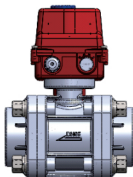

Figure 1
- 2.During installation, the flow direction should be same as the symbol “” on valve body, otherwise, it will cause leakage; DN65 and bigger ball valves, when installed horizontally, the actuator must be directed upward (as the Figure 1 shows); When installed vertically, the actuator can be oriented in any direction (as the Figure 2 shows);